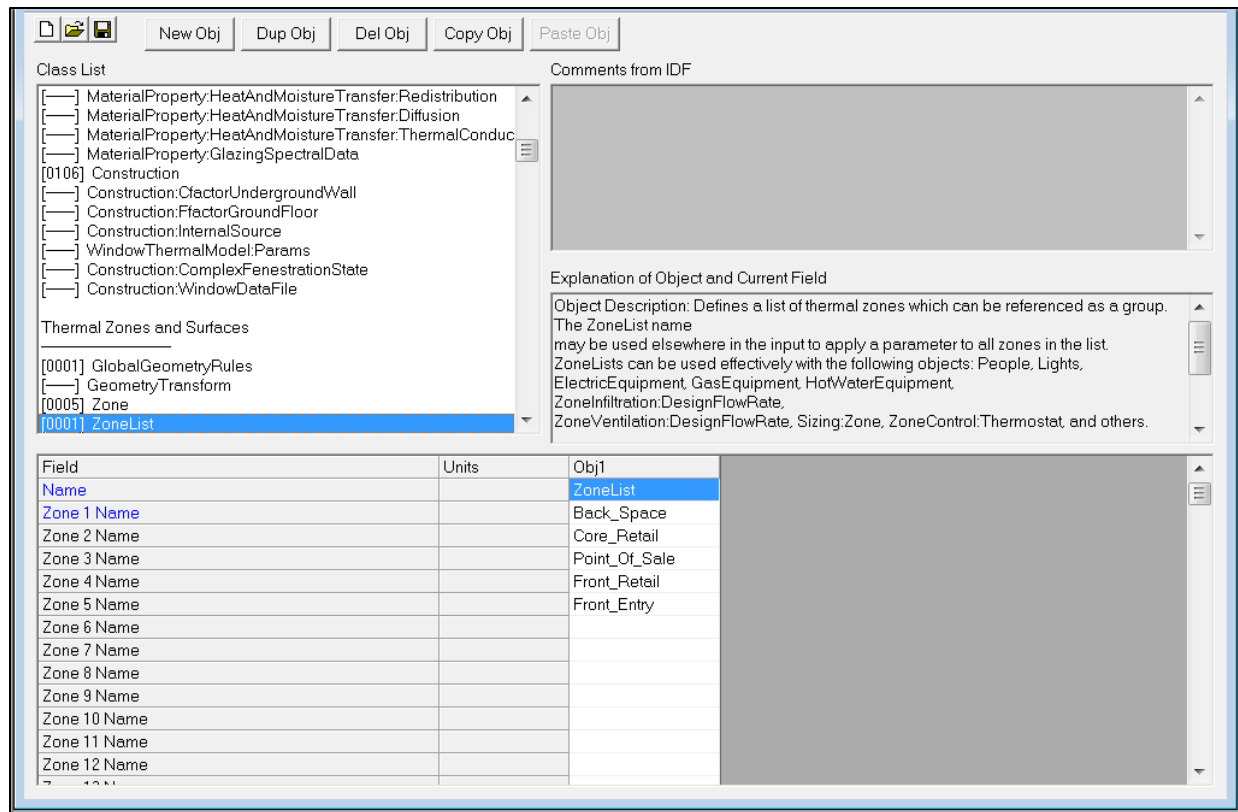

Figure 29. Creating new ZoneList object in EnergyPlus project file
- d. The feature creates one ZoneInfiltration object that applies to the Zone or ZoneList Name “ZoneList”. Thus, you need to create a ZoneList object in the EnergyPlus project file that contains the names of all the zones in the EnergyPlus project. Scroll or use the Find function (Ctrl+F) to go to the ZoneList object (Figure 29). Press the “New Obj” button. In the new ZoneList object, input the following:
- ii. Zone 1 Name: enter the name of the first zone. You can find a list of all the zones in the EnergyPlus project file in the Zone object, which is right above the ZoneList object. Repeat this for every zone. In the example in Figure 29, there are a total of 5 zones.